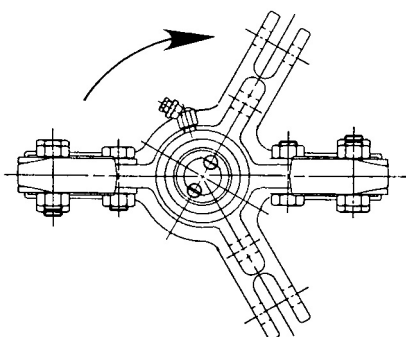

FIGURE 7
2. Rotate the puller assembly to position the two jaws where ever convenient for your application. Refer to Figure 7.